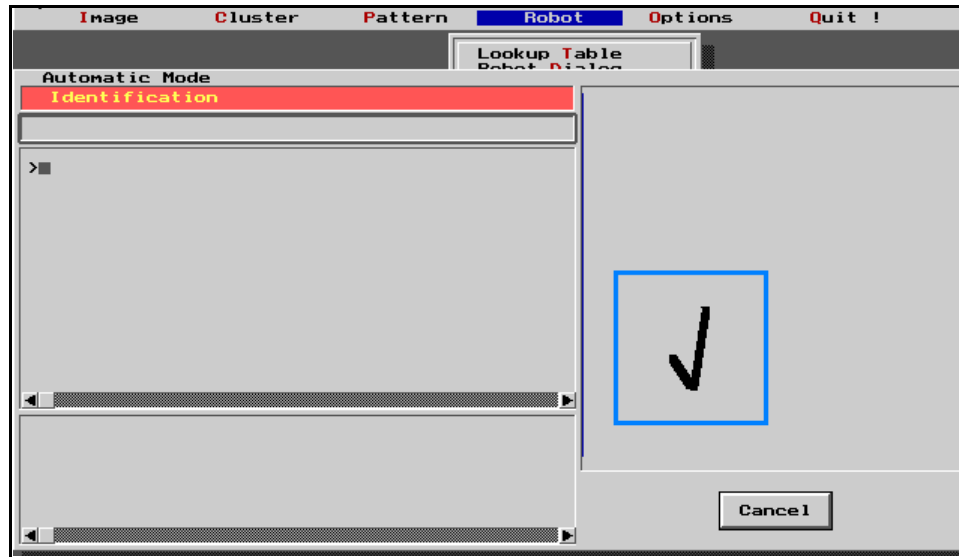

Figure 16: ROBOTVISIONpro Automatic Mode Screen
- Click on **PLC** to load the **PLC Device Driver**. See Figure 16.